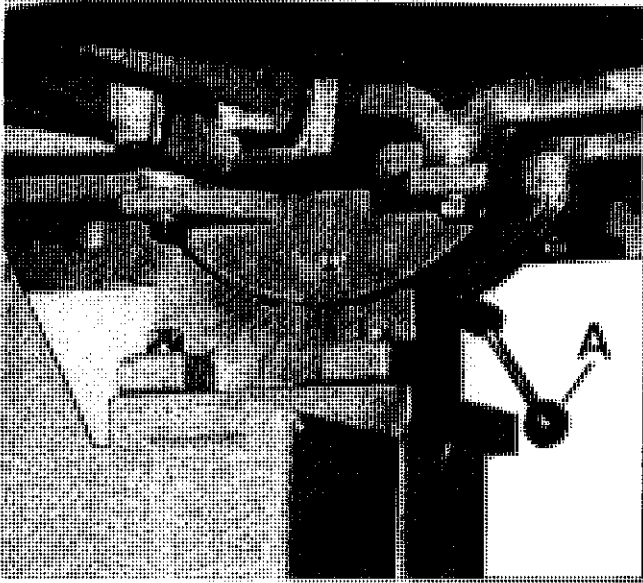
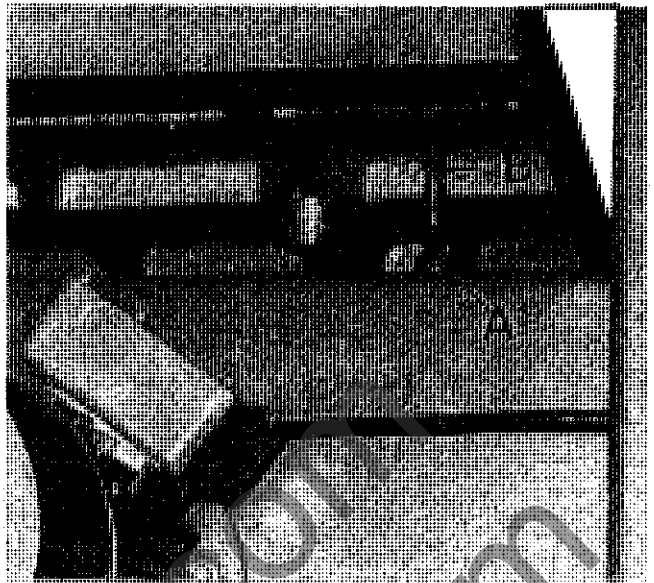
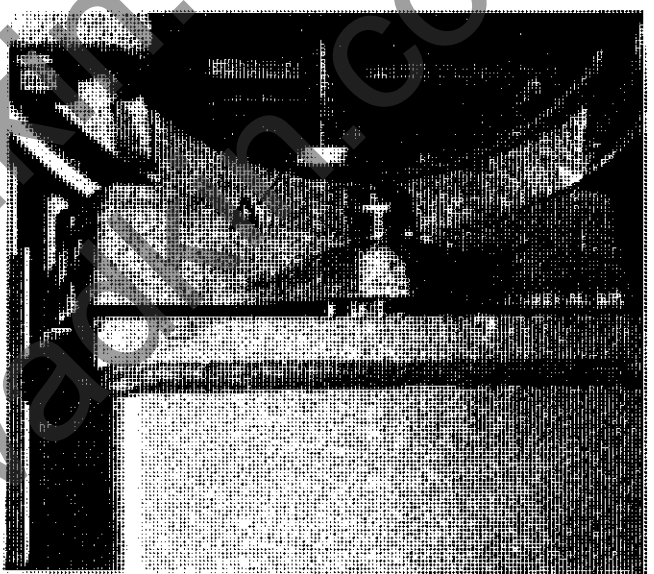

FIG 17
FIG 18
FIG 20
2. Loosen lever "A" Fig.17. (C5 & 6) Loosen Nut "A" FIG.20. (C7,8, & 9).
4. If adjustment is necessary, loosen lever "A", FIG.17, and M12 Locknut "A". FIG.18.
5. Set table square to sawblade by the steel square then relock lever "A", FIG.17.
6. Turn screw "B", FIG.18, until it locks against underside of table then relock M12 Locknut "A".
A rigid rip fence FIG.20, is mounted on a round slide bar fitted to edge of table. This fence can be mounted to rip either to inside or outside of bandsaw blade.